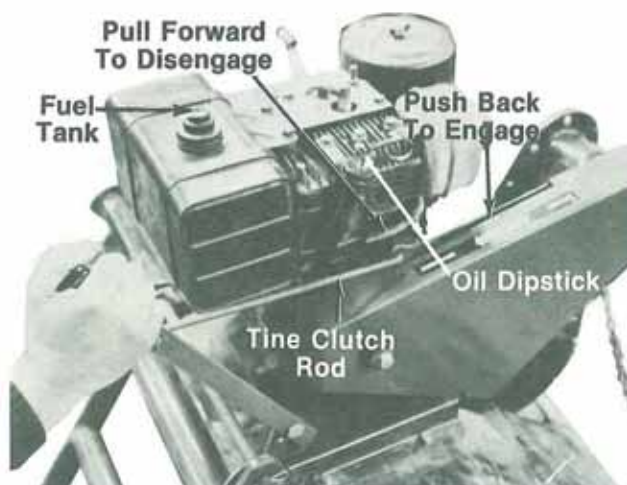

FIGURE 15.
- Place the tine clutch rod in the **disengaged** position. See figure 15.